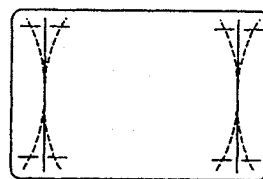

fig. 2.4B
8. Adjust the straightness of both vertical lines (figure 2.4B) using buttons "4" or "6" on the remote control.